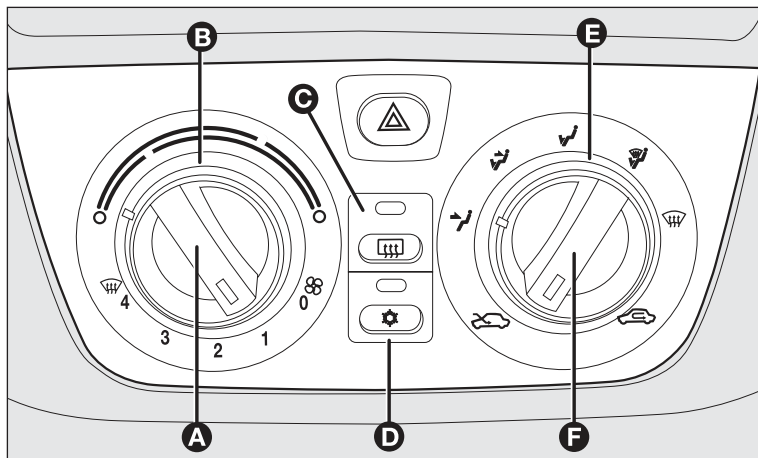

fig. 64
CONTROLS fig. 64
AIR DISTRIBUTION fig. 64
Using knob **E-fig. 64** it is possible to choose manually 5 of the possible air distributions to the passenger compartment:
Turn knob **B-fig. 64** clockwise (pointer to red sector) to increase temperature or turn it counter-clockwise to decrease temperature;
- turn knob **B-fig. 64** to the blue sector;
Set knob **F-fig. 64** to .
- turn knob **B-fig. 64** to the red sector;
- set knob **F-fig. 64** to  to turn air recirculation off;
Press button **C**-fig. 64 to turn this function on. When this function is on, the button led turns on.
- turn knob **B**-fig. 64 to the blue sector to select temperature;
- set knob **F**-fig. 64 to  to turn air recirculation off;